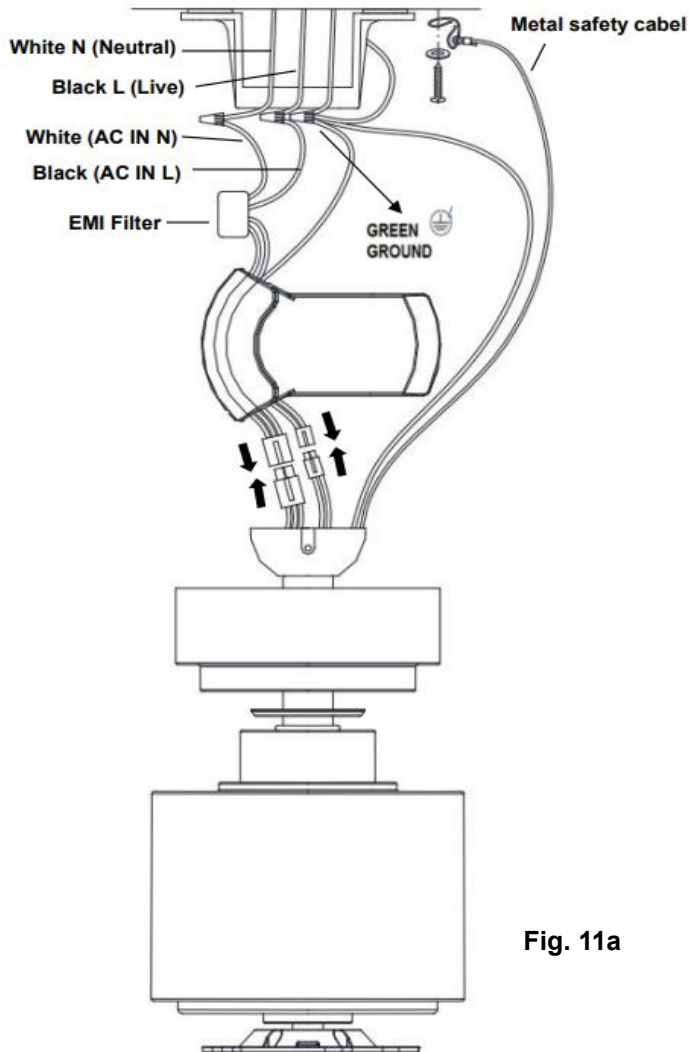

Fig. 11a
1. Connect the household live supply wire (black) to EMI filter input wire (black, AC IN L) as shown in **Fig. 11a**.